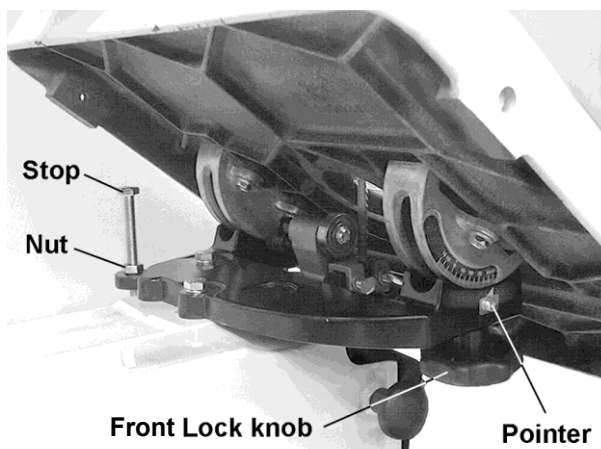

Figure 13
1. Loosen the front and rear lock knobs (Figure 13).
Note: Table stop (Figure 13) must be adjusted downward to allow the table tilt to the left.
2. Loosen lock knobs (Figure 13) and tilt table left until it rests against the table stop.
5. Loosen jam nut and turn table stop (Figure 13) left or right to raise or lower the stop. Tighten jam nut to hold table stop in place.